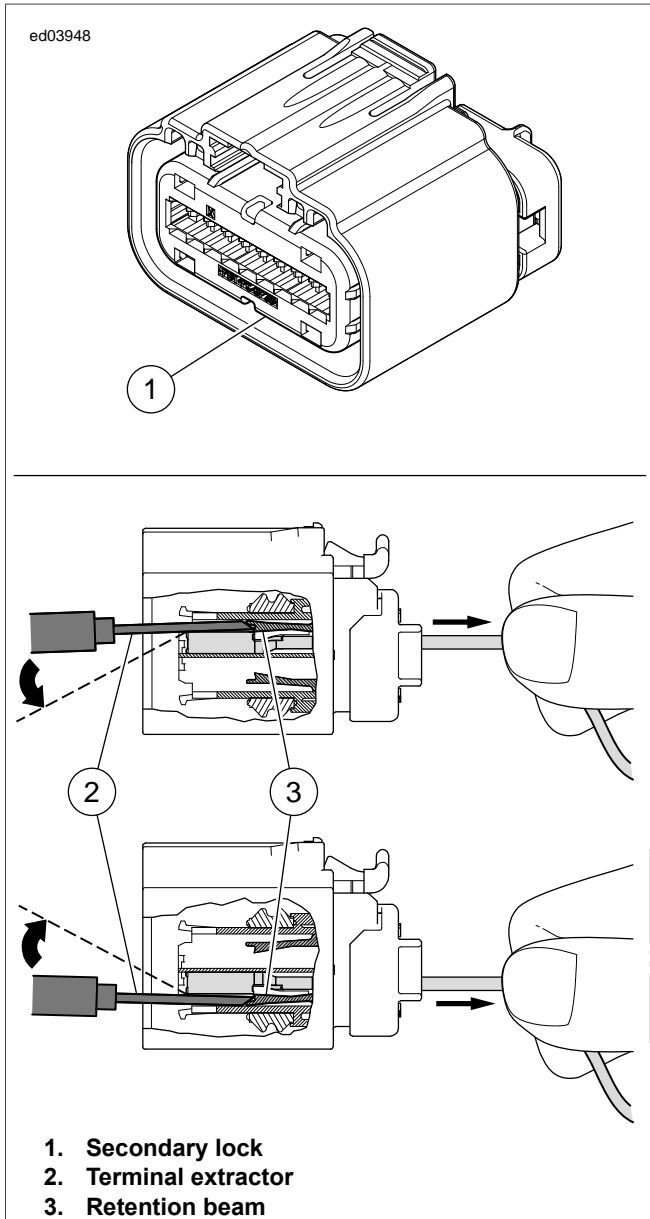

Figure B-33. Terminal Removal
1. See Figure B-33. Remove secondary lock from the connector.